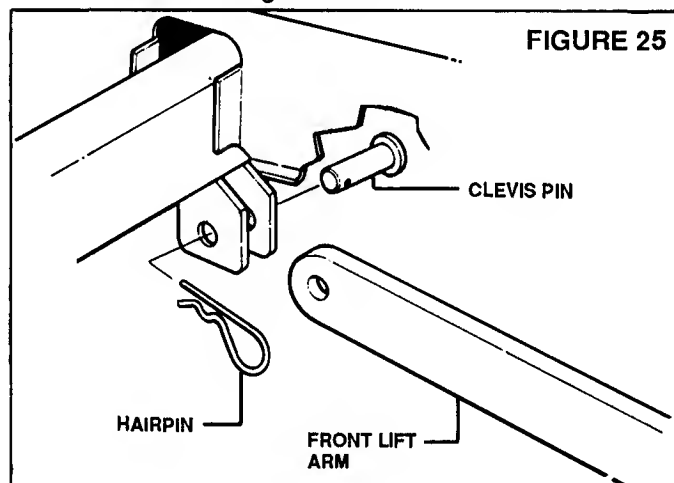

FIGURE 25
4. Remove hairpins and clevis pins from FRONT LIFT ARMS. See Figure 25.